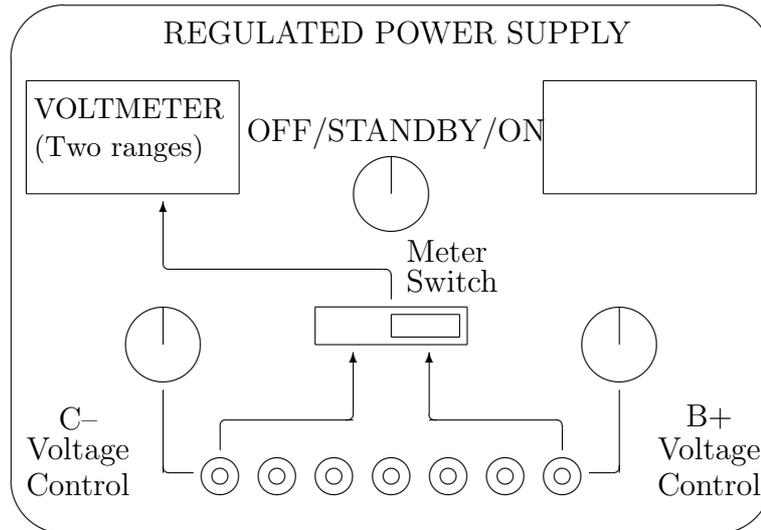

Figure 3. Regulated Power Supply for the CRT.
- A-2.** Turn the regulated power supply to the ON position. The total accelerating voltage V_a is the sum of two voltages, the C- voltage (controlled by the left knob) and the B+ voltage (controlled by the right knob); see Fig. 3. The voltmeter displaying the C- or B+ voltage is placed on the left of the power supply, and has two ranges: 0–400 V for B+ (the upper scale) and 0–130 V for C- (the lower scale). The range switch for the meter is at the center of the power supply. Set this switch to the position on the right. Vary the B+ control knob on the power supply and observe the voltage change on the the dual-range voltmeter. Set the B+ voltage to approximately 350 V.